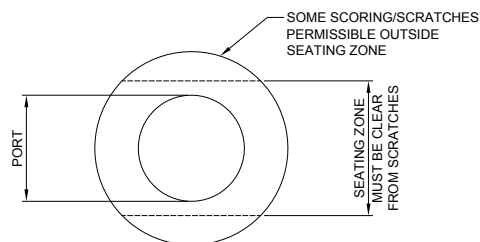

Fig. 7
- 8.12 Thoroughly clean all components with a suitable cleaning fluid. If there is any build-up of solids, use a blunt tool (preferably not metal) and ensure machined surfaces are not scratched. If any component shows signs of eroded or corroded leak paths or damage to machined areas, it should be replaced. The ball must have no scratches or scoring, other than minor signs of rubbing, around its seating periphery (fig. 7). Any components that do not pass inspection should be replaced.